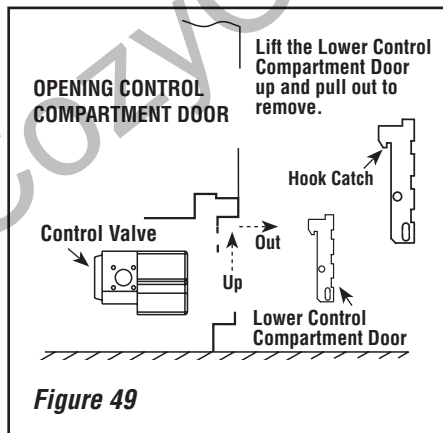

Figure 49
## CONTROL COMPARTMENT ACCESS INSTRUCTIONS (Ref. Figure 49)
On millivolt systems, the piezo igniter, HI/LO flame adjustment knob, and pilot and main gas OFF/ON control knob are located below the glass panel enclosure. The gas valve for electronic systems is also located below the glass enclosure panel. See **Figure 49**.
**Note:** The (pull-out) Lighting instructions label can be found in the control compartment (see **Figure 49**).